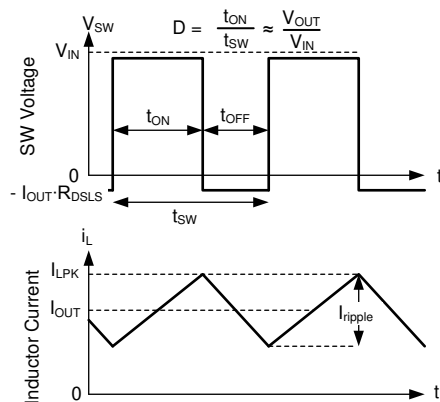

Figure 8-14. SW Voltage and Inductor Current Waveforms in Continuous Conduction Mode (CCM)
The following operating description of the LM61435-Q1 refers to Section 8.2 and to the waveforms in Figure 8-14. In CCM, the LM61435-Q1 supplies a regulated output voltage by turning on the internal high-side (HS) and low-side (LS) NMOS switches with varying duty cycle (D). During the HS switch on-time, the SW pin voltage, V_{SW} , swings up to approximately V_{IN} , and the inductor current, i_L , increases with a linear slope. The HS switch is turned off by the control logic. During the HS switch off-time, t_{OFF} , the LS switch is turned on. Inductor current discharges through the LS switch, which forces the V_{SW} to swing below ground by the voltage drop across the LS switch. The converter loop adjusts the duty cycle to maintain a constant output voltage. D is defined by the on-time of the HS switch over the switching period: